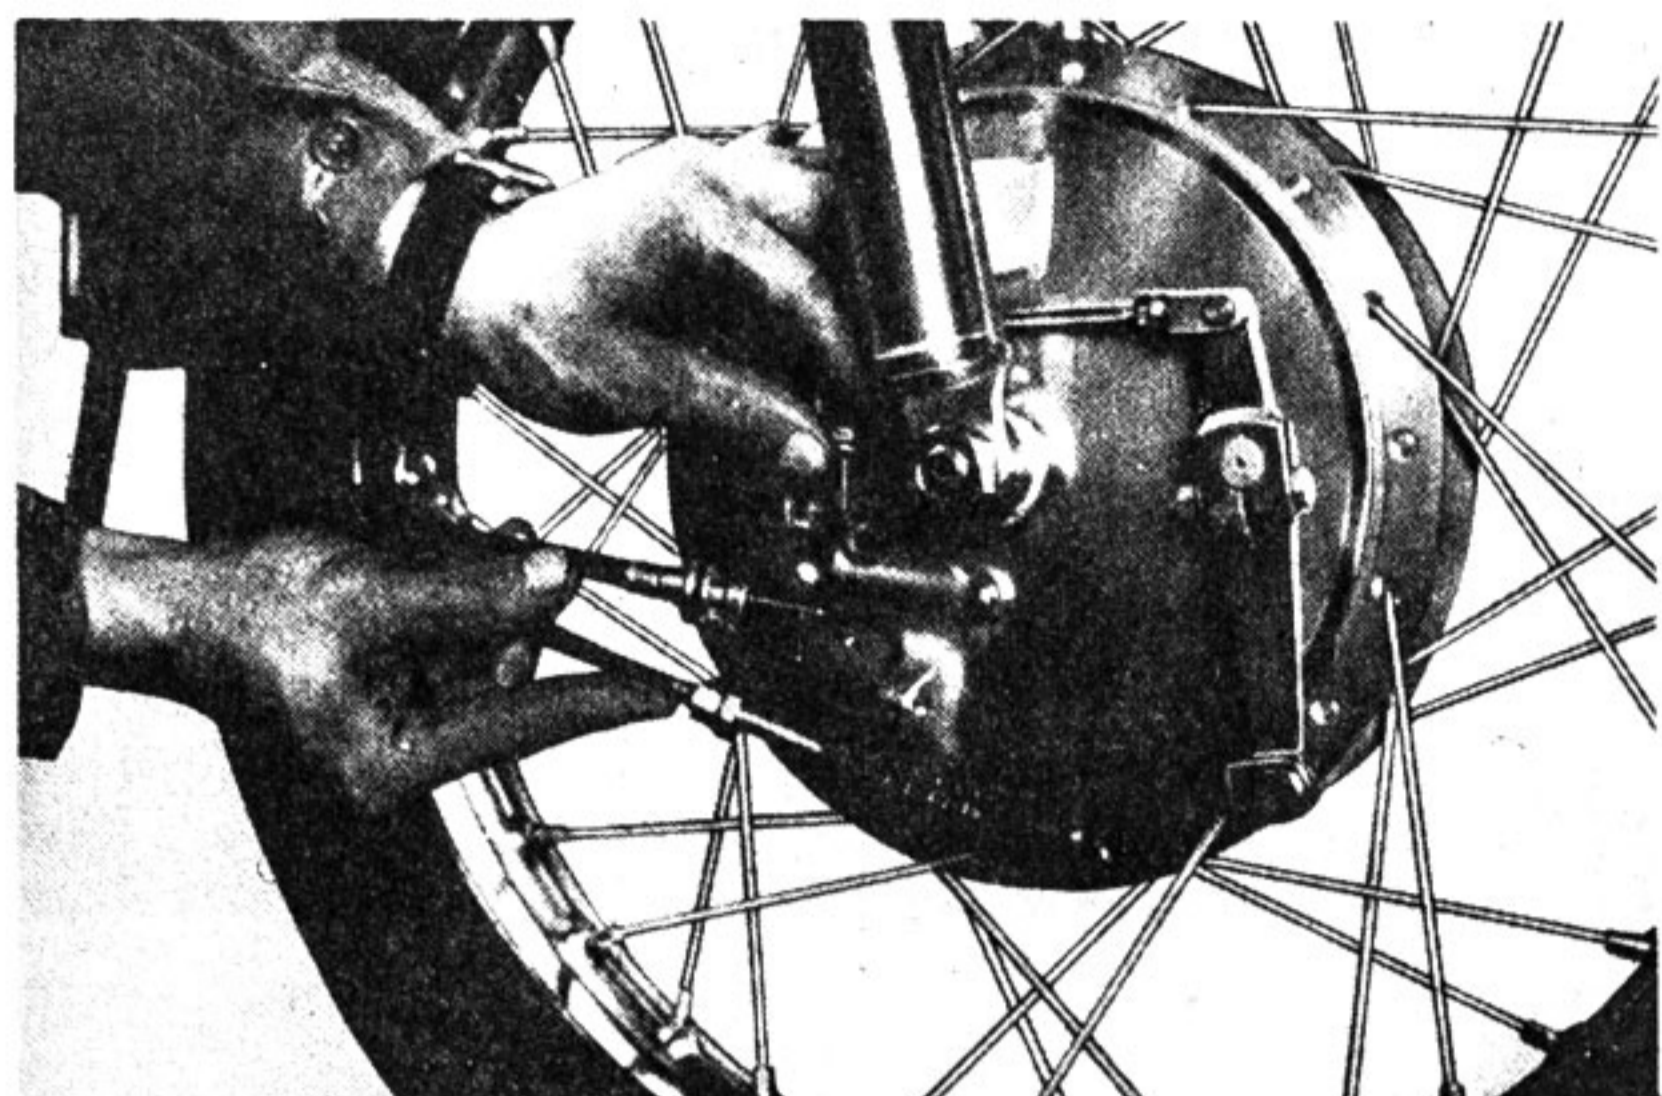

Fig. 5-1-2
(1) Disconnect the brake cable from the front brake shoe plate, and remove the speedometer cable. (Fig. 5-1-2)